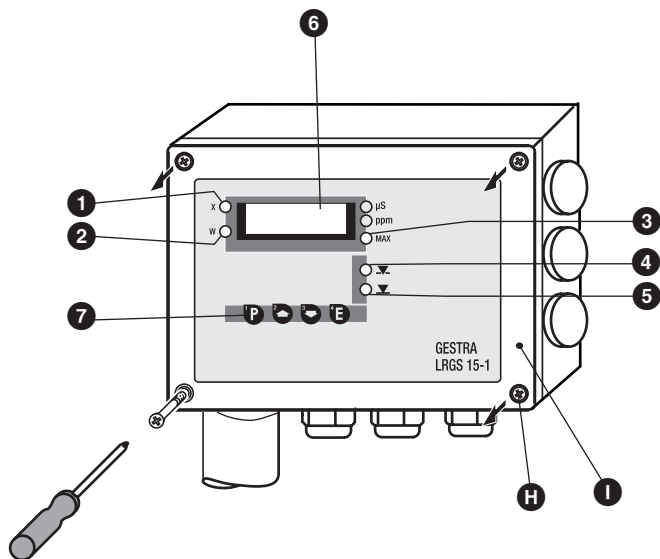

Fig. 3
1. Undo cover screws **H** and remove cover **I**, **Fig. 3**.
1. Undo cover screws **H** and remove cover **I** (Fig. 3).
1. Undo cover screws **H** and remove cover **I**, Fig. 3, 4.